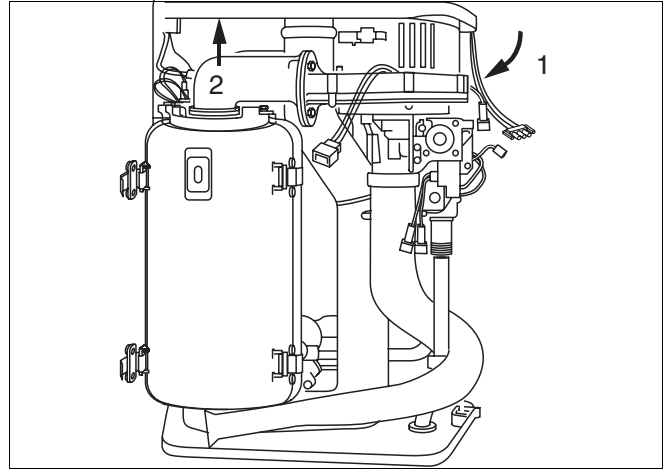

Fig. 44 Replacing the fan on the 600 Series: remove the gas connection unit
- Swivel the gas combination unit forward (fig. 44, item 1)
- Remove the gas combination unit from its bayonet connector and pull upwards to detach (fig. 44, item 2).